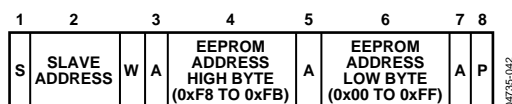

Figure 42. Setting an EEPROM Address
- To set up a 2-byte EEPROM address for a subsequent read, write, block read, block write, or page erasure. In this case, the command byte is the high byte of EEPROM Address 0xF8 to EEPROM Address 0xFB. The only data byte is the low byte of the EEPROM address, as shown in Figure 42.